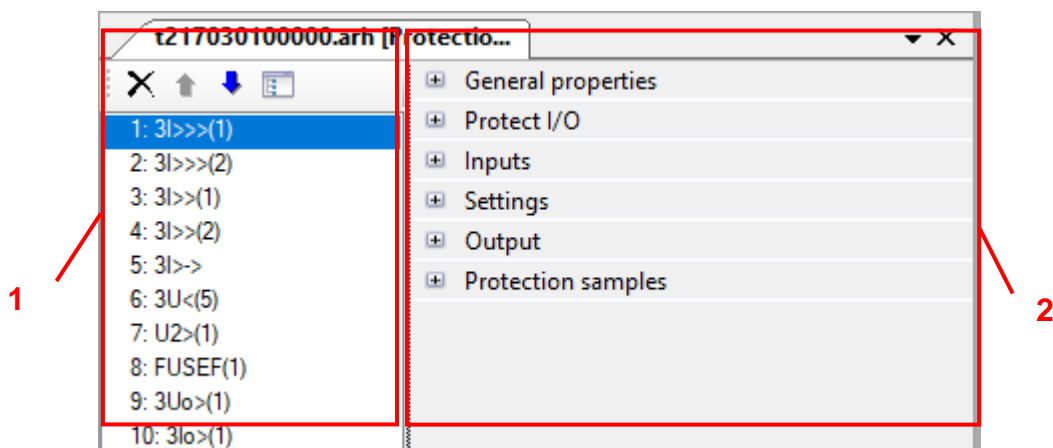

Figure 187 – Measuring elements and functions window
The **Measuring elements and functions** window, device tree menu **Logic part** → **Measuring elements and functions** (figure 187), allows you to configure measuring elements and functions for the IED. In figure 187, item 1 there is a list of measuring elements and functions available in the project, in figure 187, item 2 – parameters and settings of the selected measuring element.